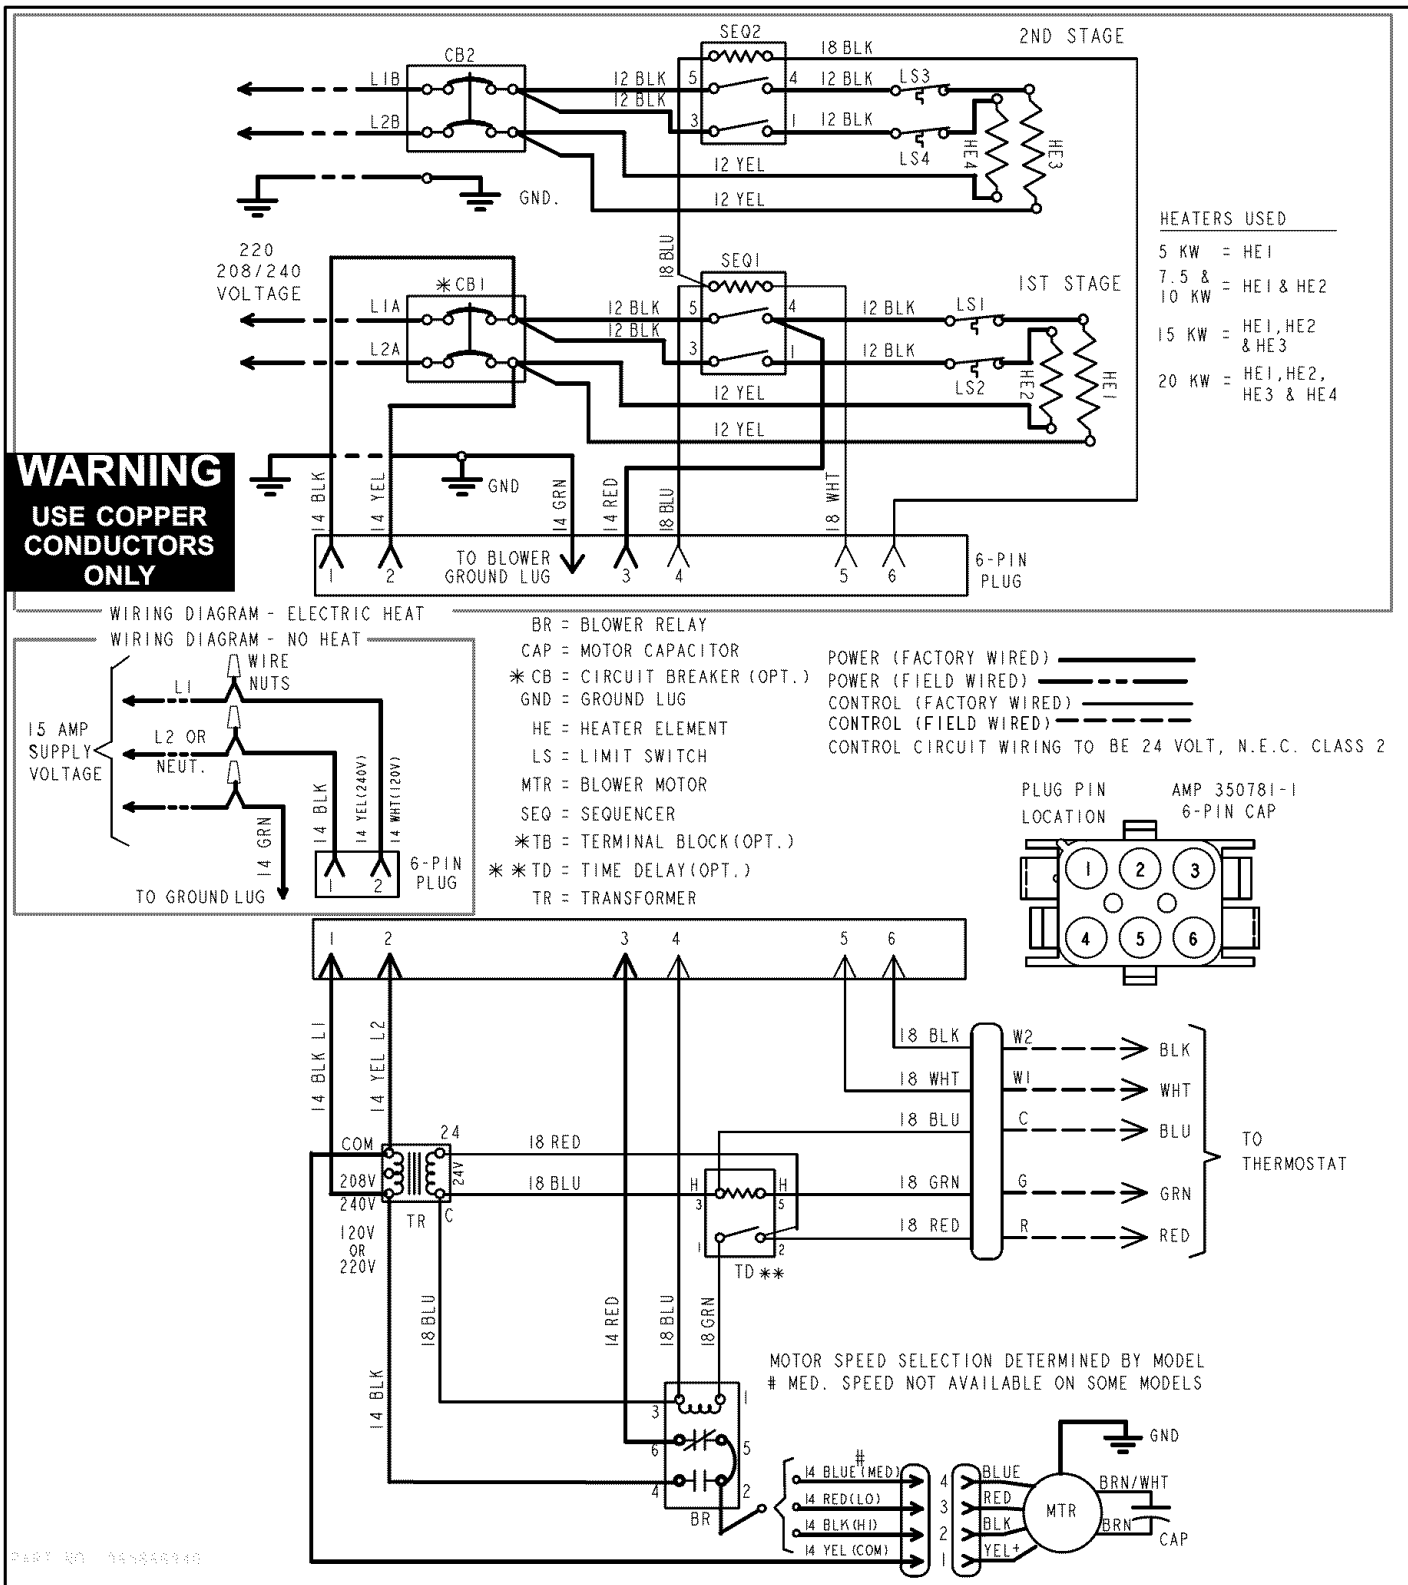

Figure 12. Wiring Diagram
3. Using the wiring diagram in figure 12 as a reference, move the 2 connected black transformer leads from the 240 volt terminal on the transformer to the 208 volt terminal on the transformer.
NOTE - Refer to wiring diagram (figure 12) and blower performance (table 4).